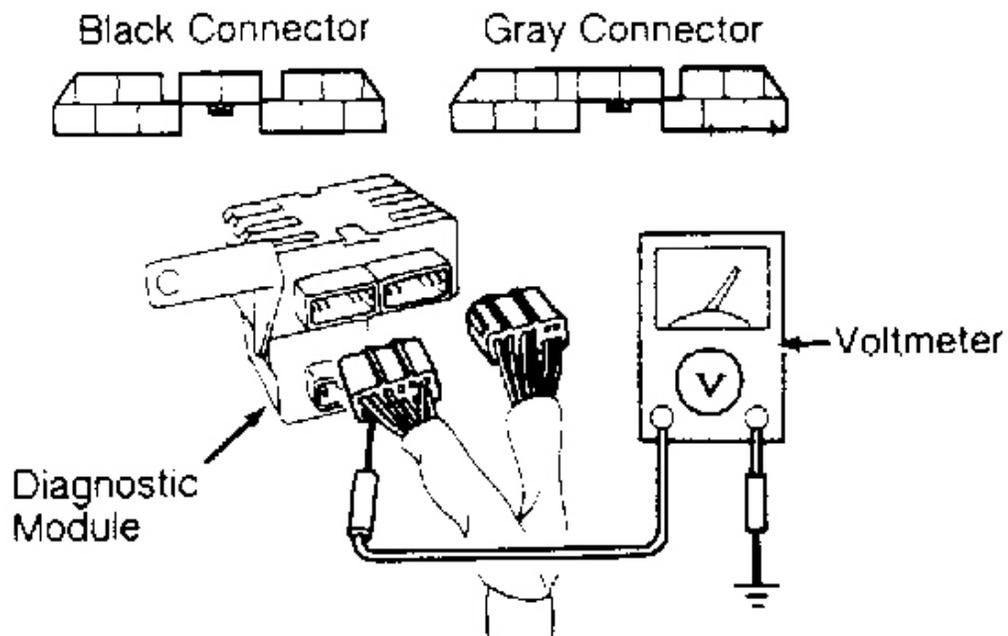

Fig. 10: Locating Diagnostic Module Black & Gray Connectors (Miata)
4. If battery voltage is present, disconnect negative battery cable and diagnostic module Black and Gray connectors. See **Fig. 10** or **Fig. 11** . Reconnect negative battery cable. Measure voltage between White/Green wire of Gray diagnostic module connector and ground. If voltage is zero volt, replace wire harness assembly.
2. If resistance is about 1.2 k/ohms, reconnect all front impact sensor connectors. Disconnect diagnostic module Black and Gray connectors. See **Fig. 10** or **Fig. 11**. Measure resistance between diagnostic module Gray connector Brown/Green wire and ground. If resistance is 1.2 k/ohms, go to next step. If resistance is not 1.2 k/ohms, replace wire harness.
2. If resistance is about 1.2 k/ohms, reconnect all front impact sensor connectors. Disconnect diagnostic module Black and Gray connectors. See **Fig. 10** or **Fig. 11** . Measure resistance between diagnostic module Gray connector Brown/Green wire and ground. If resistance is 1.2 k/ohms, go to next step. If resistance is not 1.2 k/ohms, replace wire harness.
1. Disable air bag system. See **DISABLING & ACTIVATING AIR BAG SYSTEM**. Disconnect diagnostic module Black and Gray connectors. See **Fig. 10** or **Fig. 11**. Check continuity between Black connector Green/White wire terminals. If continuity is not present, replace wire harness.
3. If continuity is present, disconnect diagnostic module Black and Gray connectors. See **Fig. 10** or **Fig. 11** . Check continuity between diagnostic module Black connector Green/White wire and clockspring connector Red wire. Also check continuity between diagnostic module Black connector Green/Yellow wire and clockspring connector Green/Yellow wire. If continuity is not present, replace wire harness assembly.
1. Disable air bag system. See **DISABLING & ACTIVATING AIR BAG SYSTEM**. Disconnect diagnostic module Black and Gray connectors. See **Fig. 10** or **Fig. 11** . Check continuity between Black connector Brown/Yellow wire and ground. If continuity is not present, go to step 4). If continuity is present, go to next step.
1. Disable air bag system. See **DISABLING & ACTIVATING AIR BAG SYSTEM**. Disconnect diagnostic module Black and Gray connectors. See **Fig. 10** or **Fig. 11**.